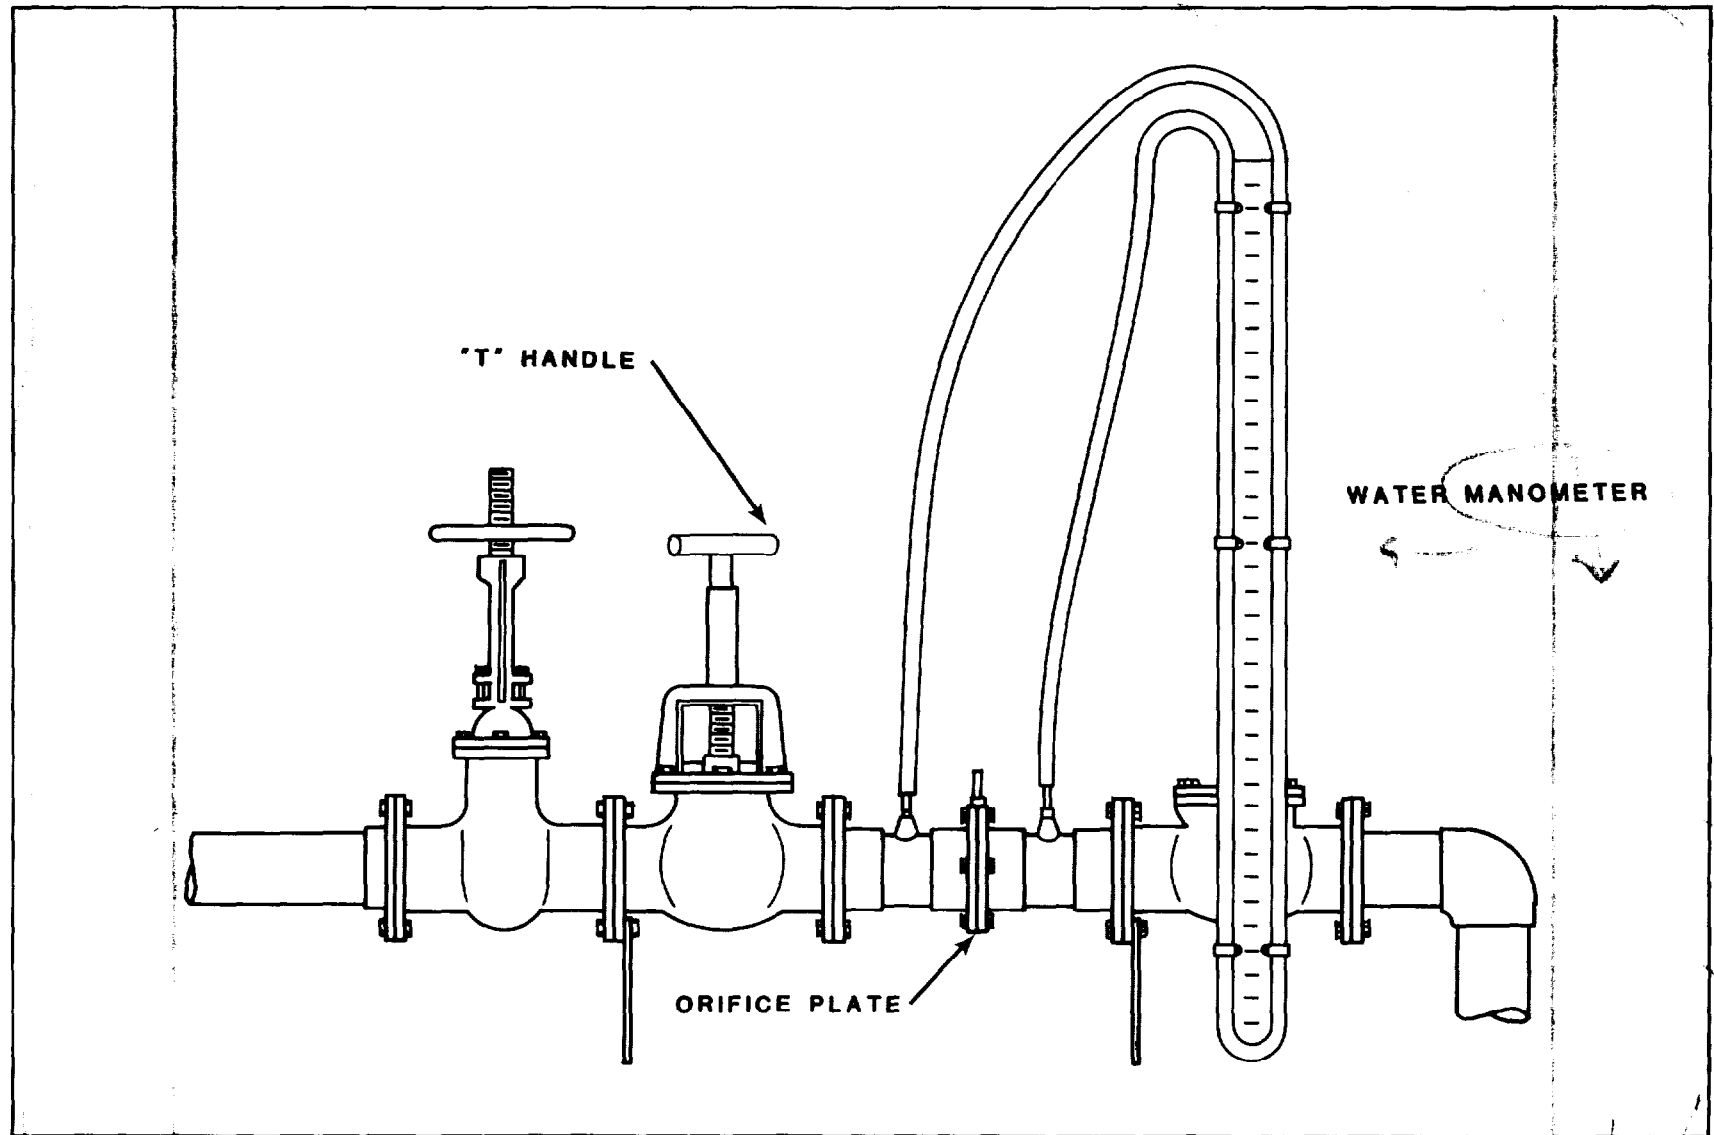

FIGURE 7-2
- (1) Four 36" water manometers.
- (2) Four control valve "T" handles for the throttle control valves.
- (3) Eight reducing bushings or nipples to fit the manometer tubing and the pressure tap fittings.
7.5.2.2 The procedures for balancing the aeration system are as follows: See Figure 7-2 for equipment setup.